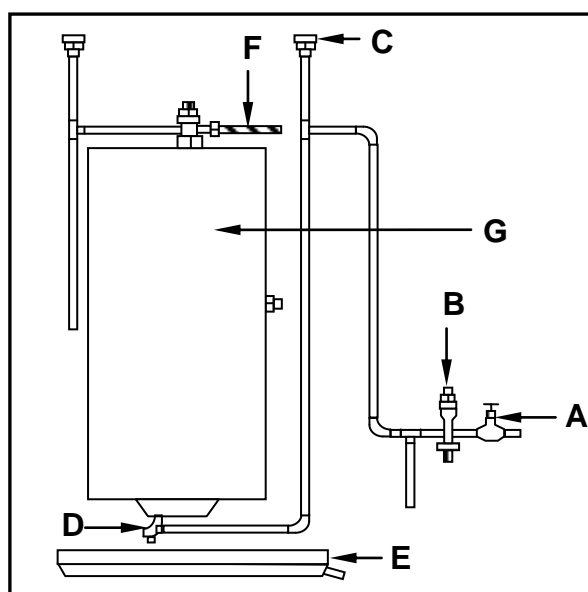

FIGURE 3.6
3.6 FIGURE 3.6 below shows a typical high-pressure geyser installation. Write the correct name of the part next to the letter (A–G) in the ANSWER BOOK.